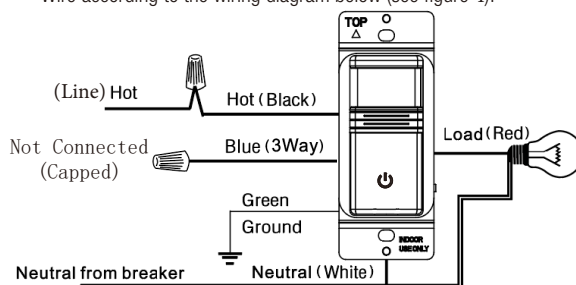

Figure 4: Black to Black, Red to Load, White wires together, Green to Ground, and Blue not connected.
- If applicable, pull the old switch out from the wall box with the attached wires. See figure 4 for a three-way wiring application.
- Wire according to the wiring diagram below (see figure 4).